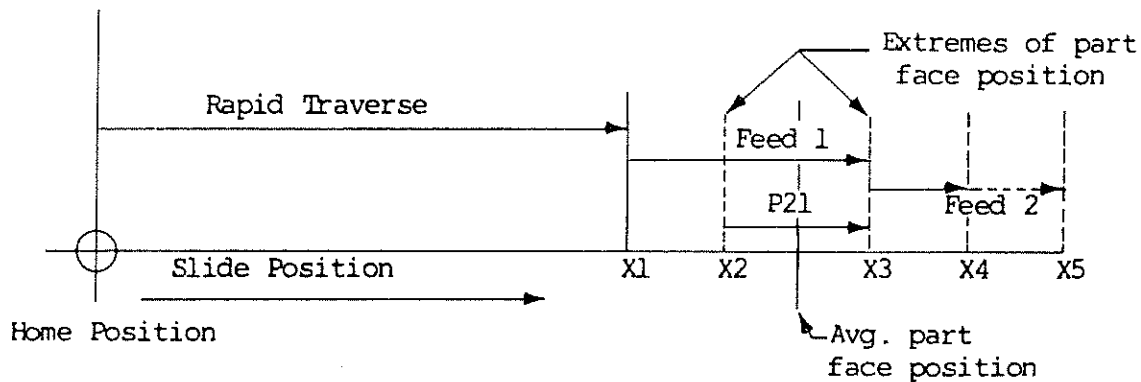

Figure 9-5. Profile of Operation Using Adaptive Depth Control
The actual movement of the slide is illustrated in the profile shown in Figure 9-5. Figure 9-6 is a programming worksheet for the program just described.
2. Determine the maximum amount of deviation in the part position, illustrated as the distance between X2 and X3 in Figure 9-5, again referenced to the tip of the linear encoder at the home position.
3. The slide position at the end of the rapid traverse (position X1 in Figure 9-5) should bring the encoder tip just short of the extreme 'back' position of the part face (X2). In other words, the rapid traverse must be completed short of the closest point the part could be positioned to home.
5. Now the value of parameter P35, "Lin-Encoder Pre-Limit" can be determined. Referring to Figure 9-5 again, it is X3 minus X2, the distance between the part face position extremes.